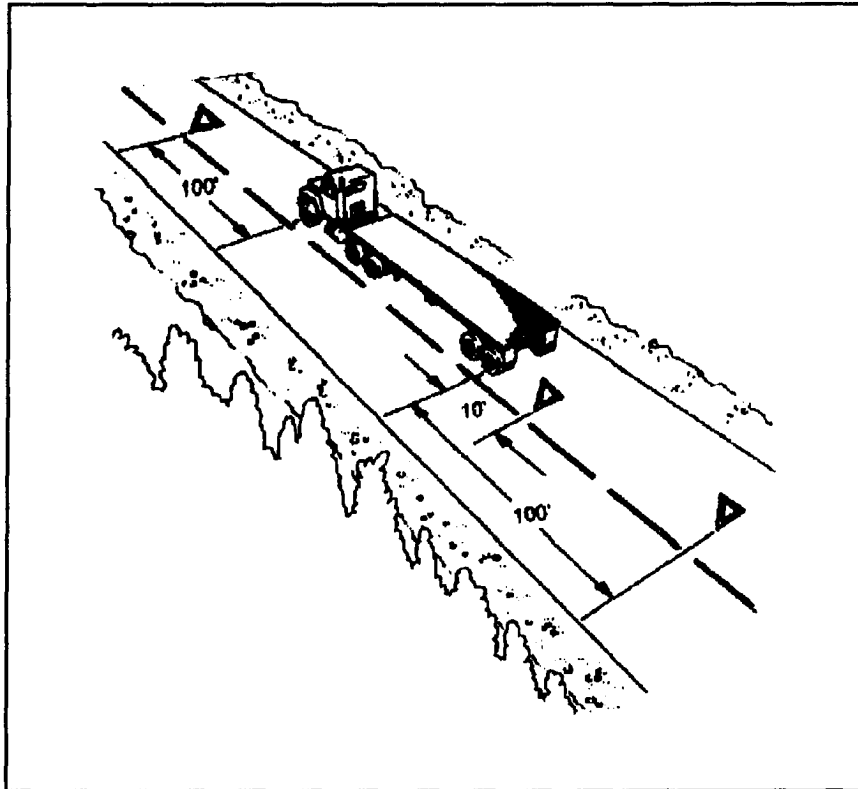

Figure 2-1. Warning device placement: two-lane or undivided highway
- On a two-lane road carrying traffic in both directions or on an undivided highway, place warning devices within 10 feet of the front or rear corners. You must also place warning devices 100 feet behind and ahead of the vehicle on the shoulder or in the lane you stopped in to mark the vehicle location (Figure 2-1).